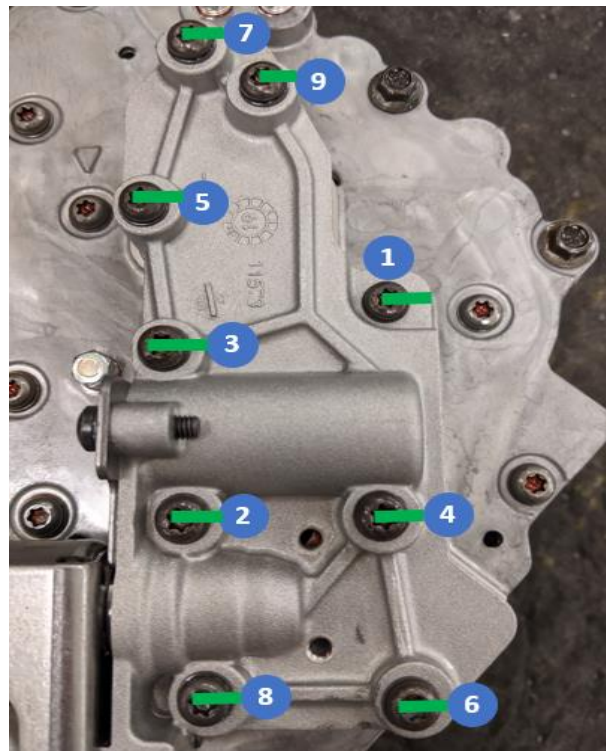

Figure 10 – Tightening Sequence
19. Re-install Lower Valve Body to main Transmission Valve Body, hand starting and seating all of the fasteners then tighten to 7.3 N·m (64.6 in. lbs.) according to specified pattern illustrated in (Figure 10).
21. **Important:** Repeat tightening the 9 Lower Valve Body fasteners to 7.3 N·m (64.6 in. lbs.) using the sequence illustrated in (Figure 10).